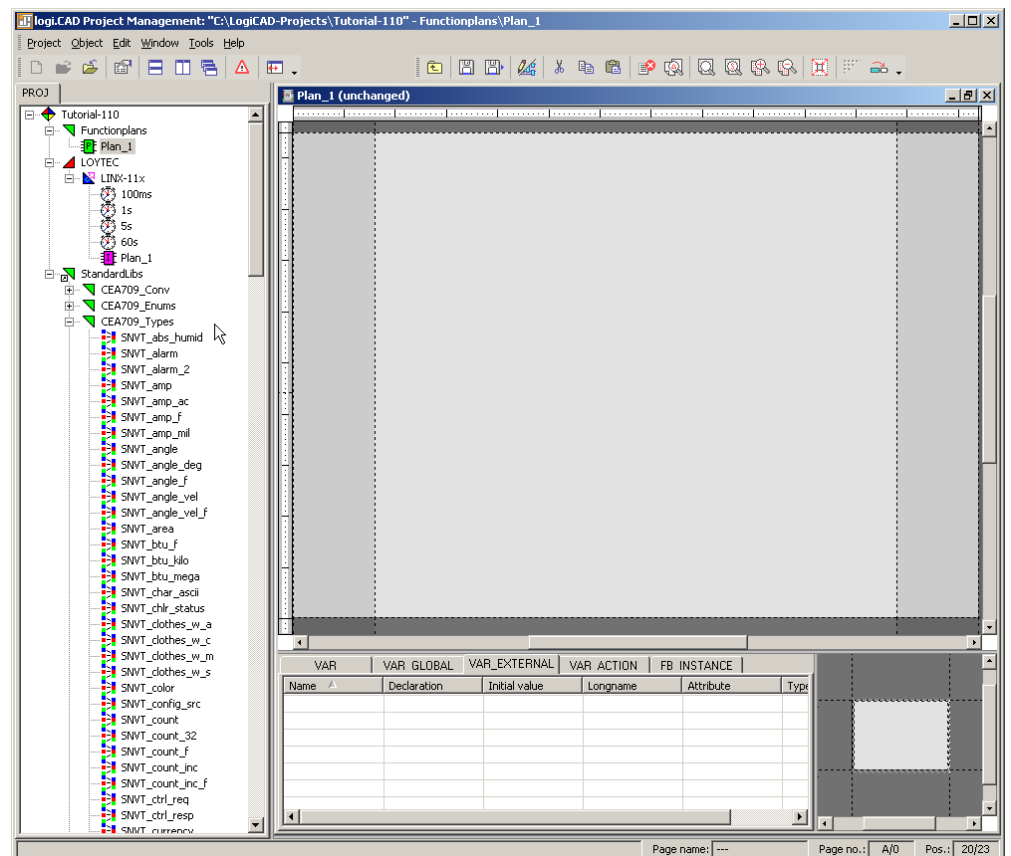

Figure 42: Edit Plan_1
7. As shown in Figure 42 below, expand the tree element **Functionplans** and double click **Plan_1** in order to start editing the plan.